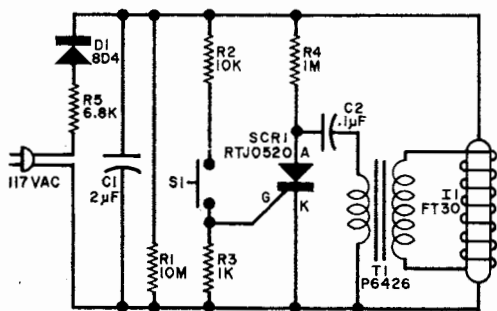

Fig. 3. Relatively simple electronic photoflash circuit uses low-cost plastic-encapsulated SCR.
**Manufacturer's Circuit.** The relatively simple electronic photoflash circuit shown in Fig. 3 is one of three schematics featured in *Thyristor Application Report 901*, published by the Transistron Electronic Corp. (168 Albion St., Wakefield, Mass. 01881). The circuits were all chosen to highlight the manufacturer's versatile RTJ series of low-cost plastic-encapsulated SCR's.